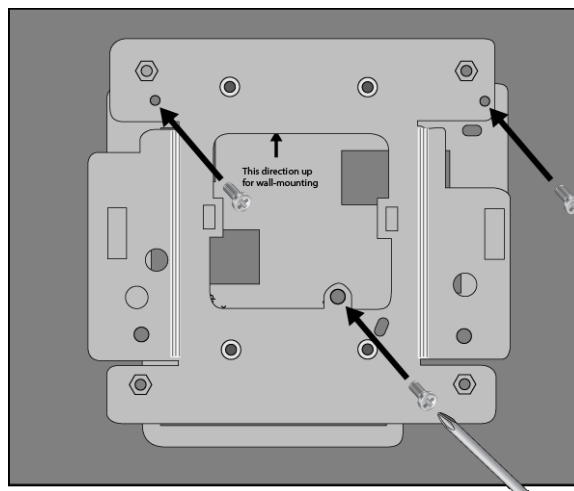

Figure 10. Securing the Base Plate to the Fortinet Bracket
2. Install three M3x6 screws to secure the base plate. The screws are included with the BRKT-CONV-AP1 bracket. Refer to Figure 10. This step may require two people, one to hold the bracket while another secures it with the screws.